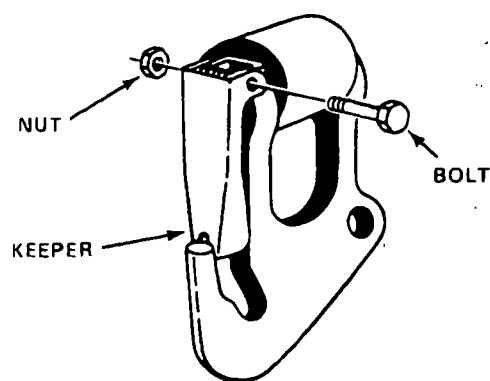

Figure 6-14. Removing Bolt and Nut from Grabhook
Step 1 - Using a pin punch and hammer, drive out the roll pin. If the roll pin has been replaced by a bolt and nut, unscrew the nut and remove the bolt (Figure 6-14).